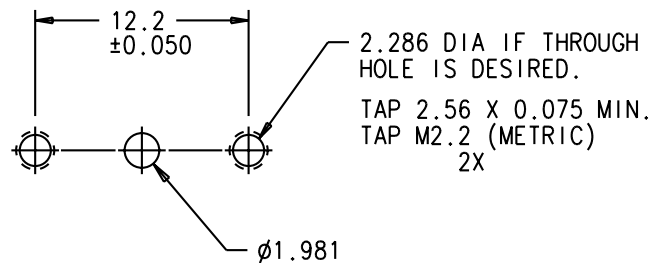

Figure 3. K103 Mounting Hole Dimensions (mm)
- b. Tap the two or four mounting holes as shown in Figures 3 and 4.